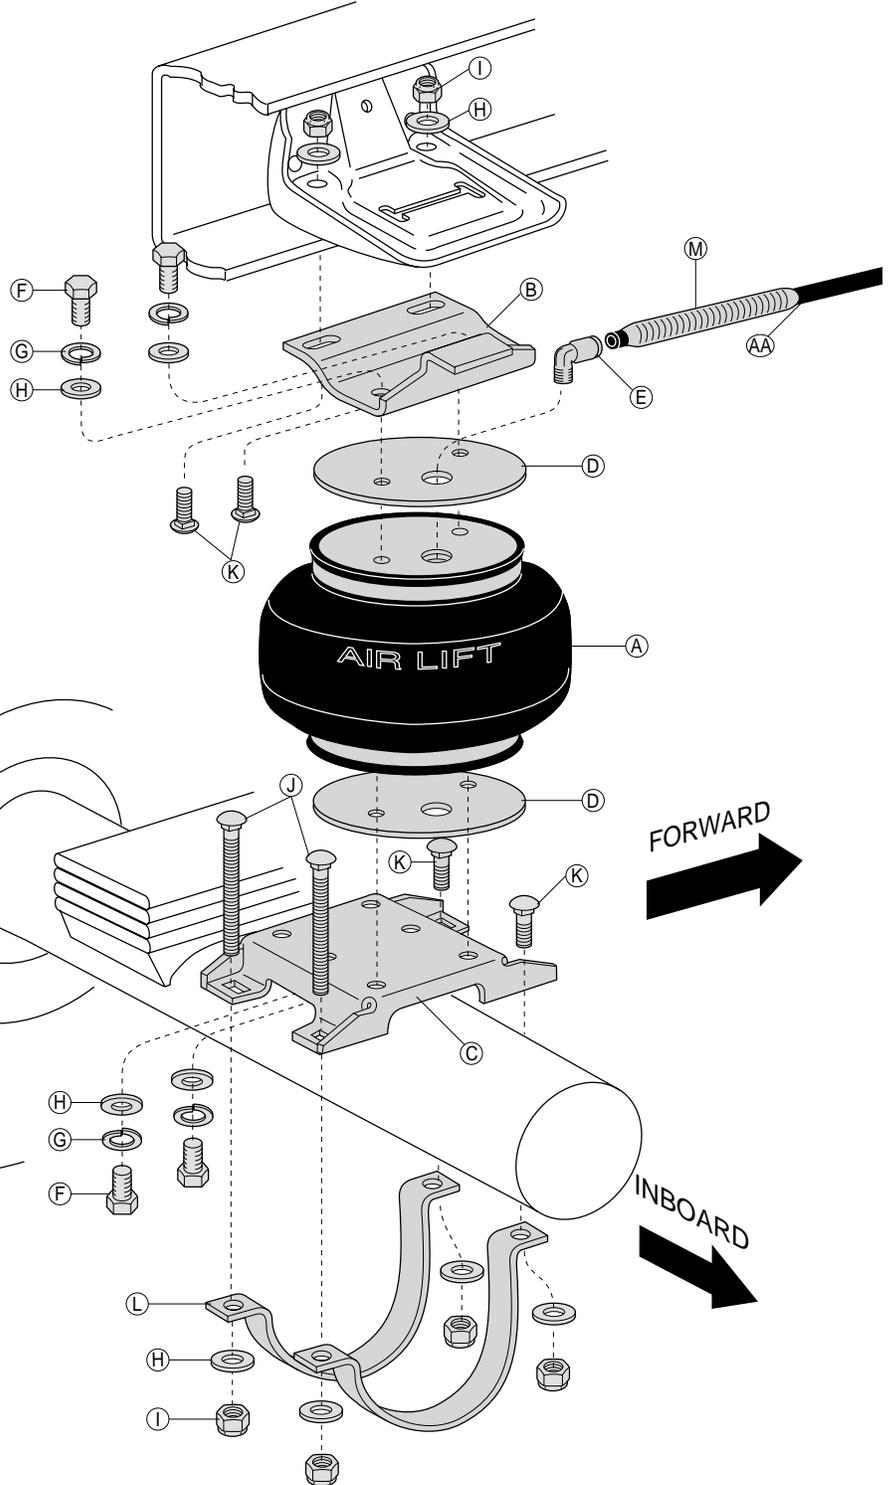

Figure 1
* (not shown in Figure 1)
4. Insert two short carriage bolts (K) into the upper bracket (Figure 1).
6. Secure the upper bracket to the frame and jounce bumper bracket using a flat washer (H) and nylock nut (I) on each carriage bolt (Figure 1).
1. Install two $\frac{3}{8}$ " x 1.5" carriage bolts (K) in the two *forward* facing holes of the lower bracket (Figure 1).
2. Install two $\frac{3}{8}$ " x 3.5" carriage bolts (J) in the *rearward* facing holes of the lower bracket (Figure 1).
3. Install the J-straps (L) with the *long leg to the front* of the vehicle. Loosely attach the straps using flat washers (H) and $\frac{3}{8}$ " lock nuts (I). Refer to Figures 1 and 7.